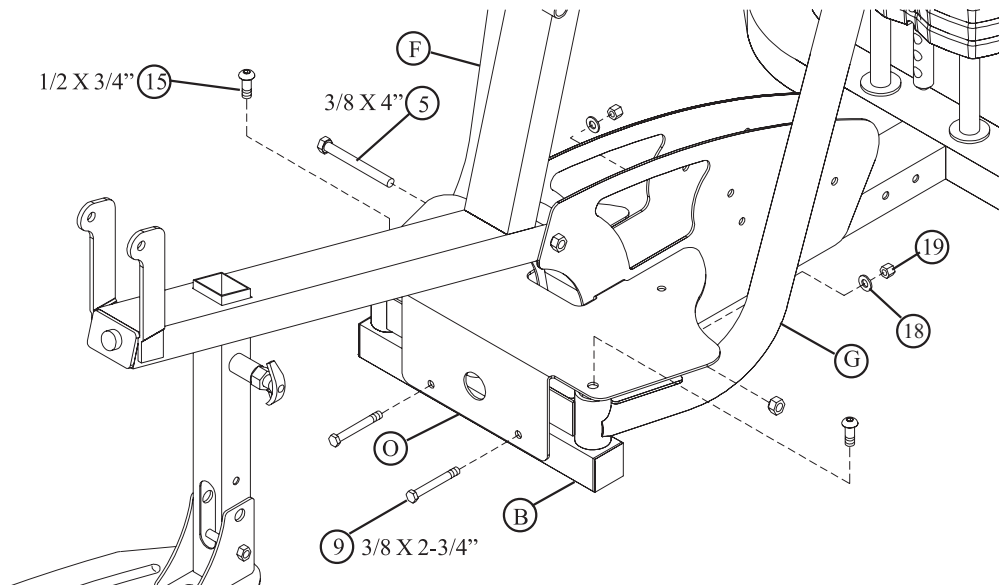

**FIGURE 7**
- Securely tighten all frame connections except the FOOTPLATE/FRAME connection as noted in FIGURE 7.
- Slide the LEFT (F) and RIGHT (G) PEC FLY ARMS over the BASE (B) as shown in FIGURE 7.
- SECURELY assemble the PEC FLY HANDLES (I) to the LEFT (F) and RIGHT (G) PEC FLY ARMS using two 1/2 X 3/4" BUTTON HEAD BOLTS (15), and two 1/2" WASHERS (17) as shown in FIGURE 7.